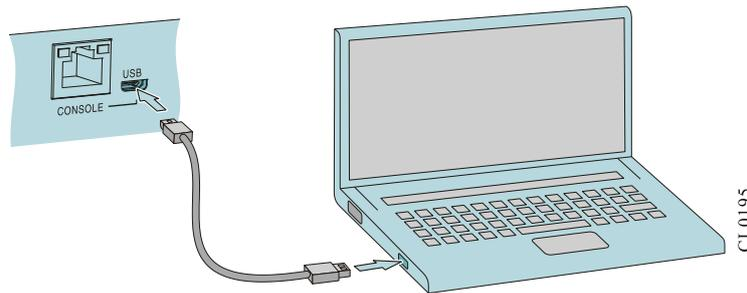

FIGURE 4-2 CONNECT WIRELESS CONTROLLER AND PC VIA USB SERIAL PORT
- The configuration cable used by the USB serial port is one four-core unshielded cable. One side is Micro USB 5P (male) interface, inserted to the Micro USB Console port of the device; the other side is with one USB AM interface, inserted to the USB interface of the PC (or laptop), as shown in Figure 4-2.